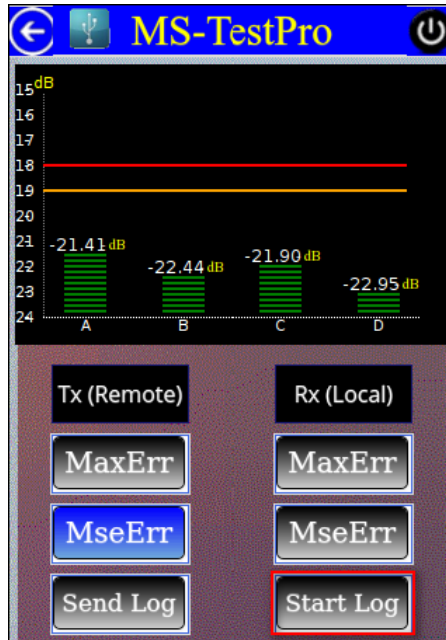

Figure 23: Starting Log Generation
1. To begin log generation, tap on the **Start Log** button, shown in Figure 23 below. The system generates transmitter *and* receiver logs.